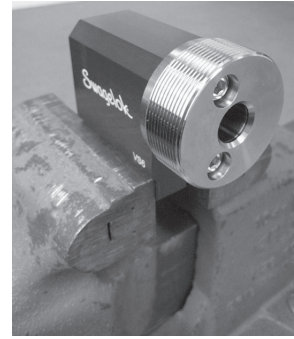

Fig. 32 Placing the tube vise in a bench vise
1. Place the tube vise in a bench vise and tighten slightly. (Fig. 32)